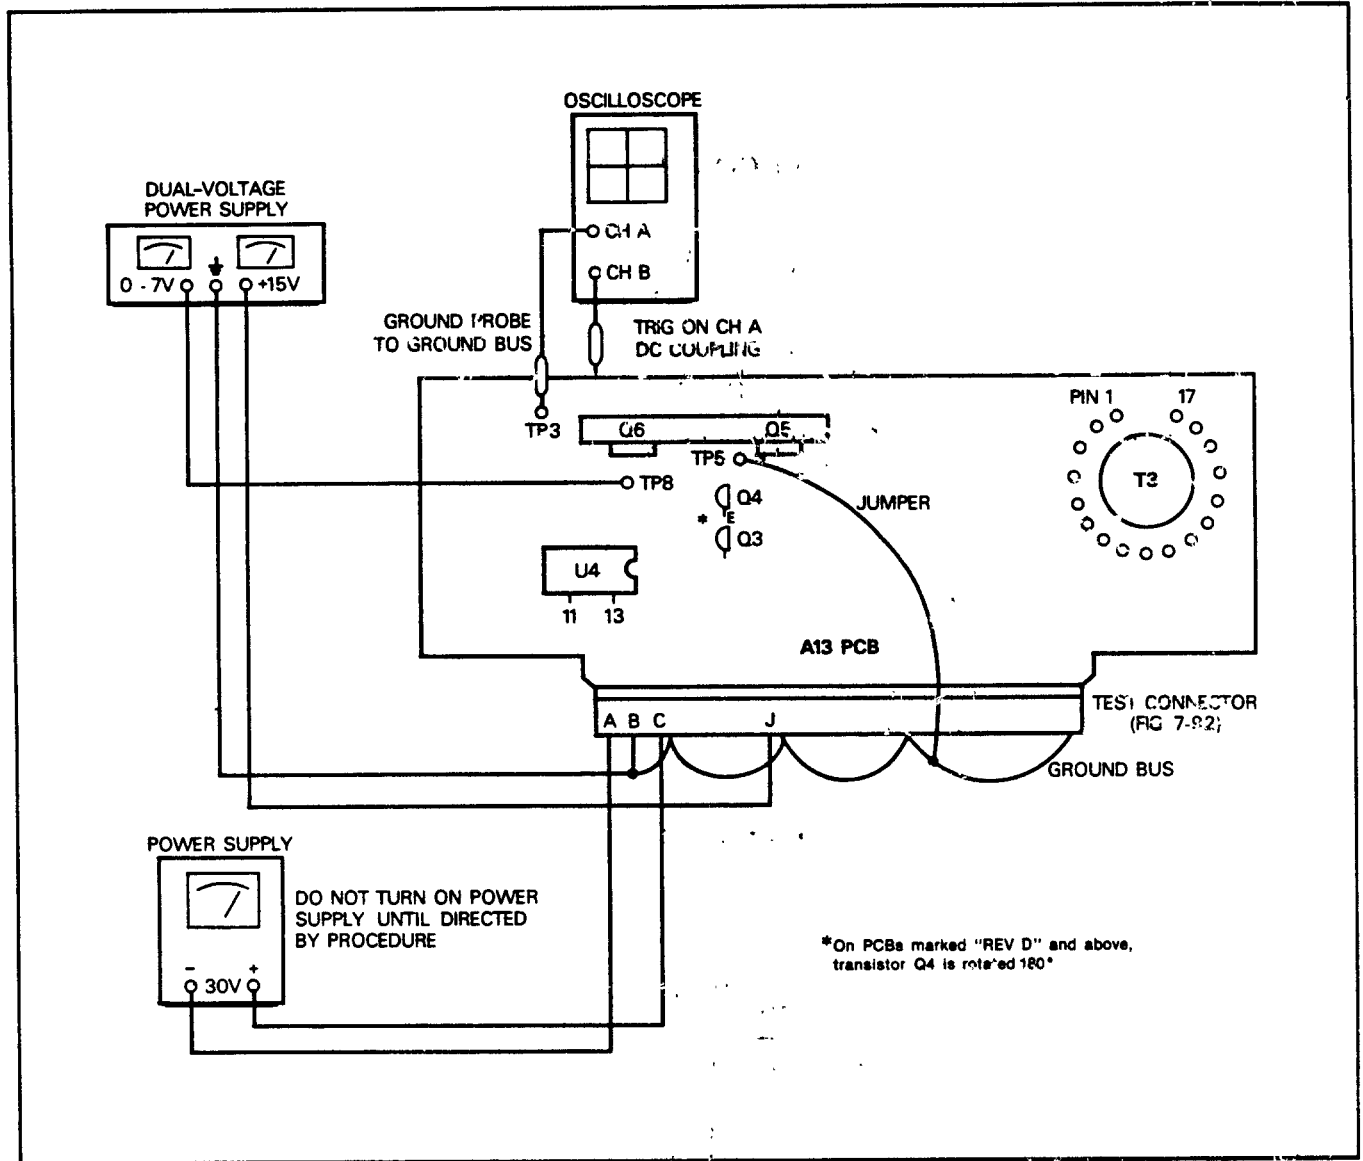

Figure 7-90b. Test Equipment Setup for A13 PCB Benchtop Tests
5. Connect the dual-voltage power supply as shown in Figure 7-90b.